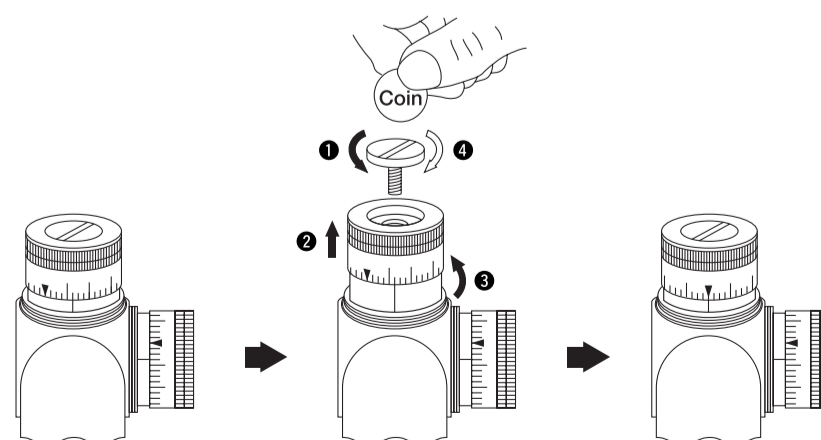

Fig. 3-4
(4) Zero setting of grip (Fig. 3-4)